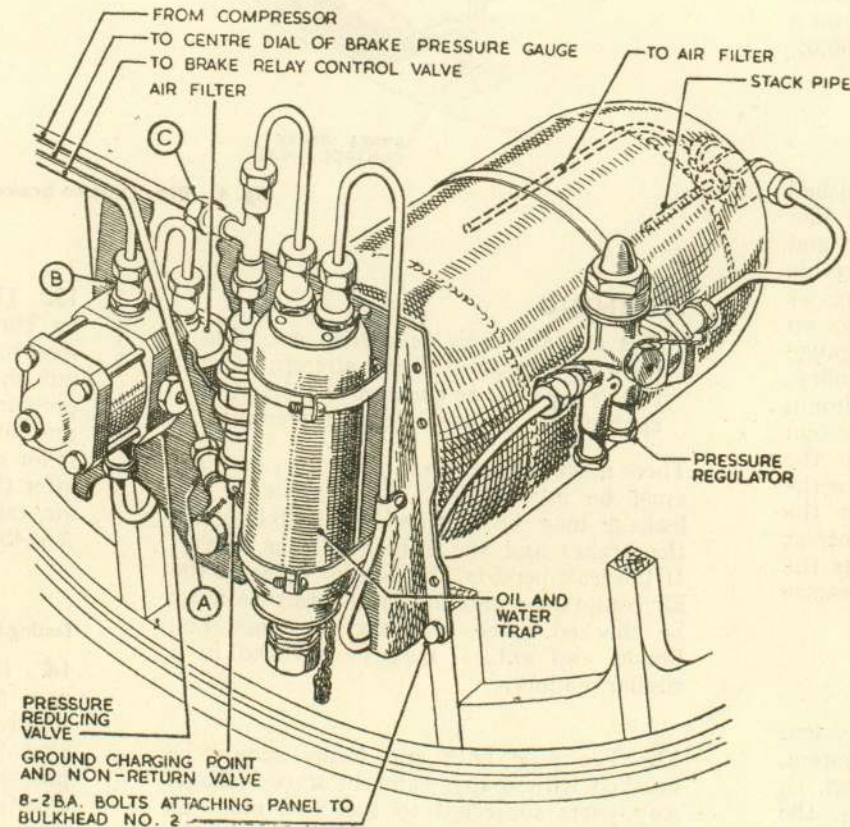

Fig. 5. Pneumatic panel
Pneumatic panel	Fig. 5
- (1) Open the gun bay doors and remove the ammunition feed chutes from the inboard guns (*Sect. 7, Chap. 3*).
- (2) Disconnect pipes A, B and C as indicated in fig. 5.
- (3) Withdraw the eight bolts securing the panel to No. 2 bulkhead.
- (4) Remove the panel through the gun bay. Assembly is the reverse of removal.